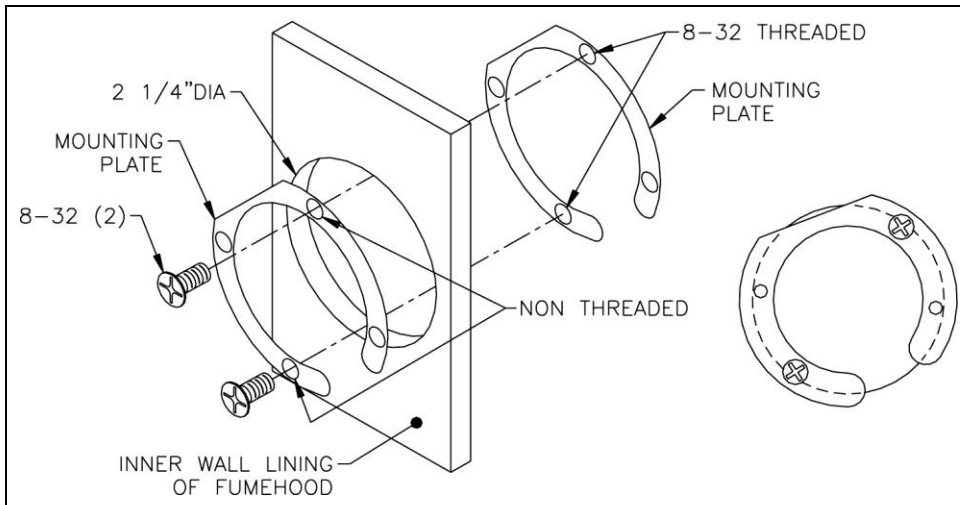

Figure 4: Mounting Plates
4. Install MOUNTING PLATES to fume hood liner wall using 2 of the 8-32 × 5/8-inch screws provided. The MOUNTING PLATES must be installed as shown in Figure 4.
8. Mount the VELOCITY SENSOR to the MOUNTING PLATE using the remaining two 8-32 × 5/8-inch screws provided (Figure 4).